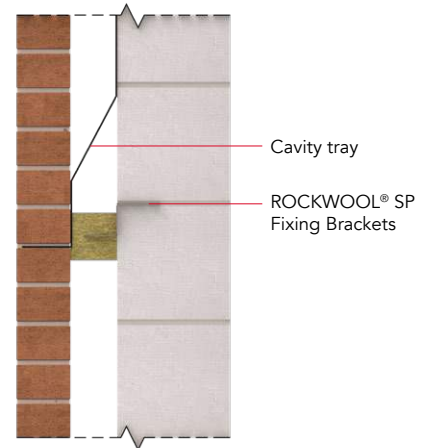

Figure 5
8. Work on both leaves can then be continued and must include either a vertical damp proof course (vertical installation) or a cavity tray (horizontal installation) installed over the SP Firestop Slab as shown in Figure 5.